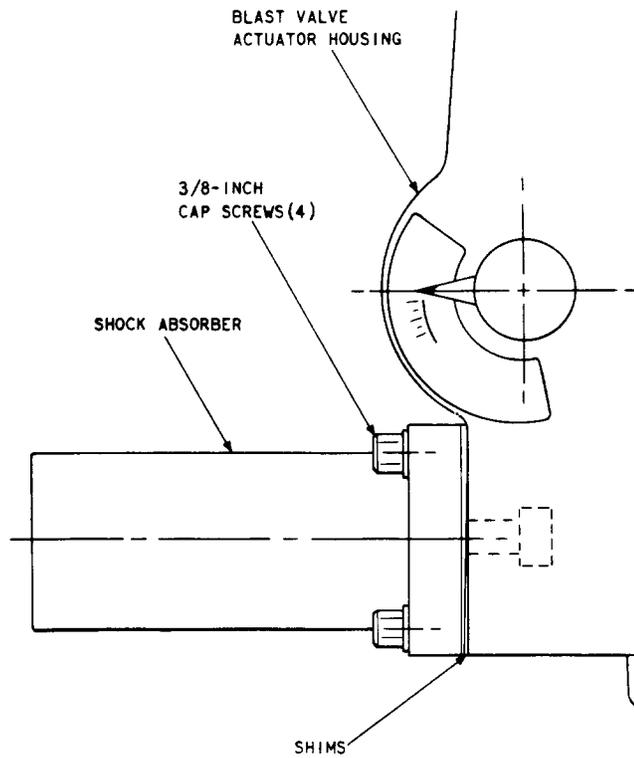

Fig. 6—Removal of the Shock Absorber
- (6) Place the shock absorber on a workbench; with the filler port and bleeder screw uppermost. See Fig. 6.
- (7) Remove the filler port plug and bleeder screws; drain all hydraulic fluid.